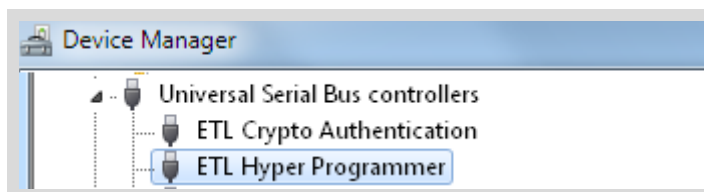

Figure 12 The "ETL Crypto Authentication" and "ETL Hyper Programmer" devices
- To make sure that the drivers were installed successfully open the "Device Manager" and locate the "ETL Crypto Authentication" and the "ETL Hyper Programmer" (Figure 12).